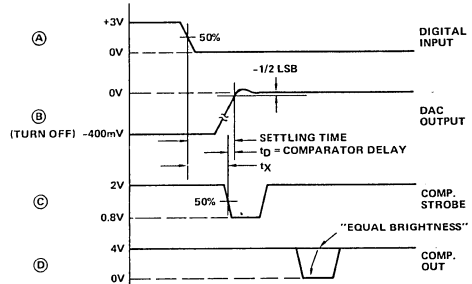

FIGURE 3B.
As shown in Figure 3B, settling time equals t_X plus the comparator delay ($t_D = 15\text{ns}$). To measure t_X ,
- Adjust the V_{LSB} supply for 50 percent triggering at COMPANATOR OUT. This is indicated by traces of equal brightness on the oscilloscope display as shown in Figure 3B. Note DVM reading.
- Switch the LSB to Pulse (P).
- Measure t_X from scope as shown in Figure 3B. Settling time equals $t_X + t_D$, i.e. $t_X + 15\text{ns}$.